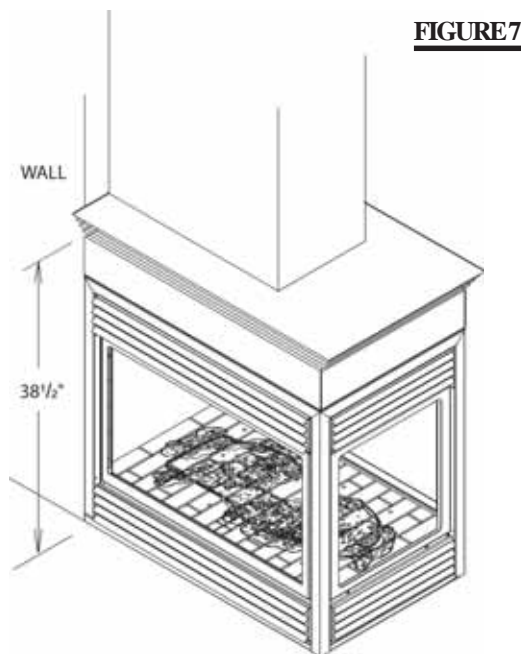

FIGURE 7
* The top extension may be removed if non-combustible framing is faced with a non-combustible material placed flush with the front face of the unit and extending from the top of the unit. (Example: cement board) (not supplied). Combustible counter / bar tops must maintain a minimum of 38 1/2 inches from the base of the fireplace to the underside of the top. **Figure 7.**